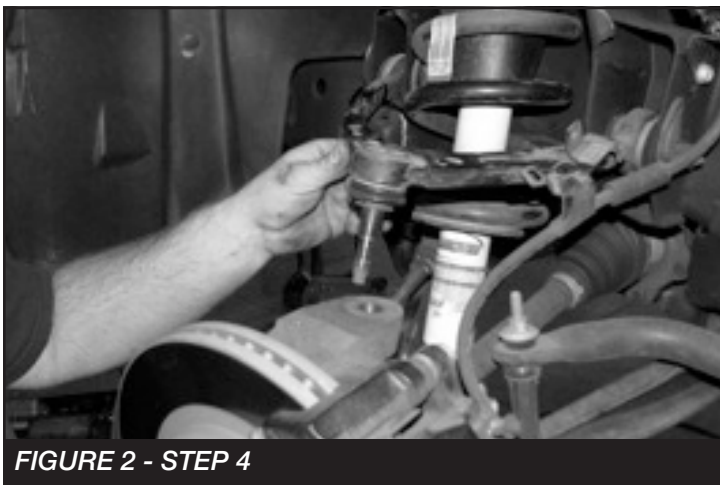

FIGURE 2 - STEP 4
4. Remove the nuts securing the tie rod and upper arm ball joints to the spindle. Separate both joints from the spindle and remove the upper control arm and tie rod from the spindle. **SEE FIGURE 2**